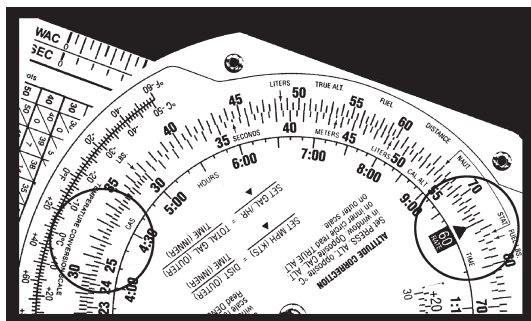

Figure 7
1. Set 4:20 on the inner scale (or 260 on the middle scale) opposite of 32 on the outer scale. See Figure 7.